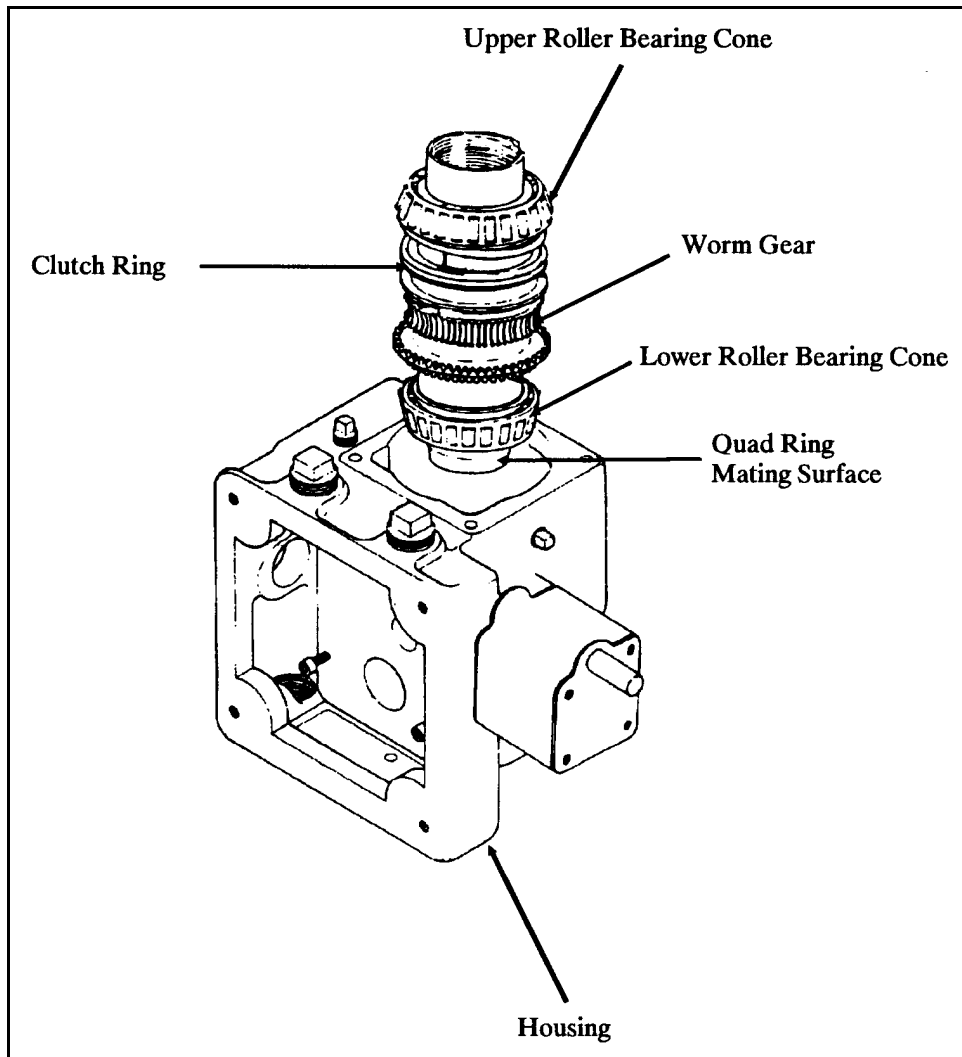

Figure 4-38 Drive Sleeve Installation
19. Drive Sleeve Installation Refer to Figure 4-38